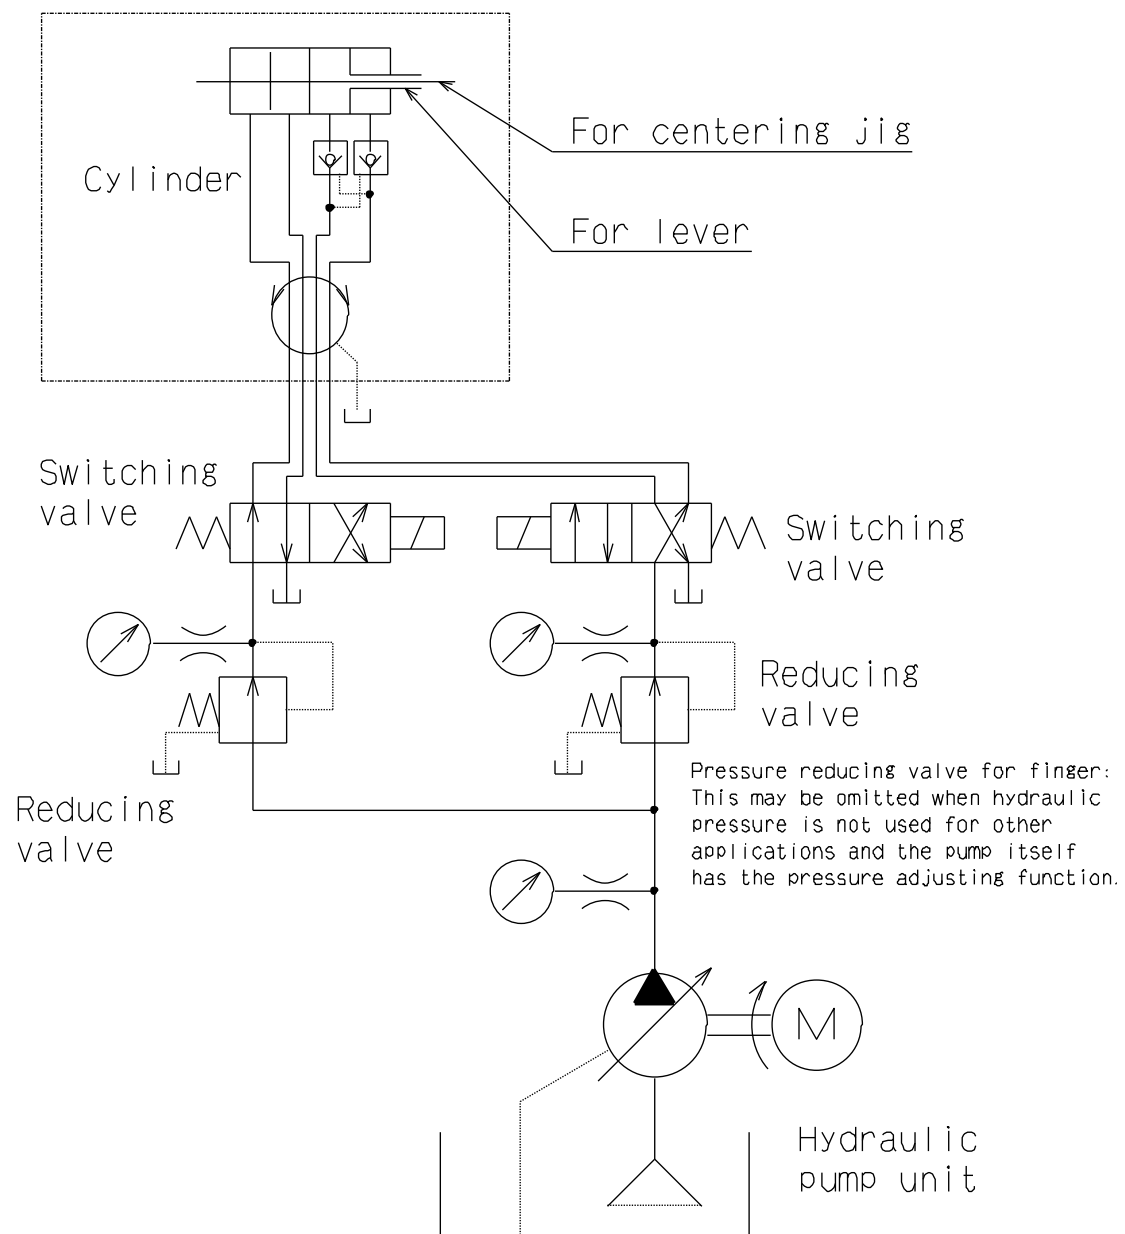

Fig.13
- Fig.13 shows an example of chuck open/close hydraulic circuit.